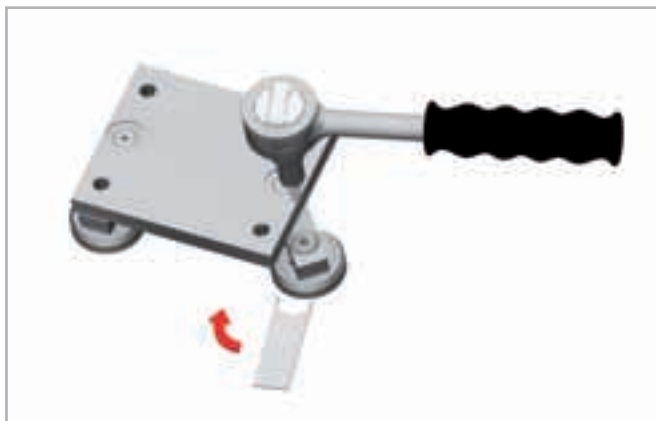

Fig. 11
- The special flat key provided is inserted from the side onto the hexagonal of the roller to be set (see fig. 11).